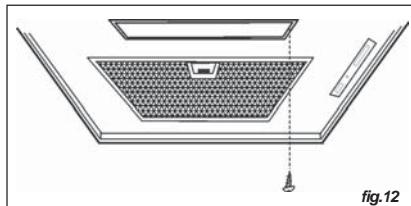

fig.12
1. Remove the screw securing the light lens. Fig.12